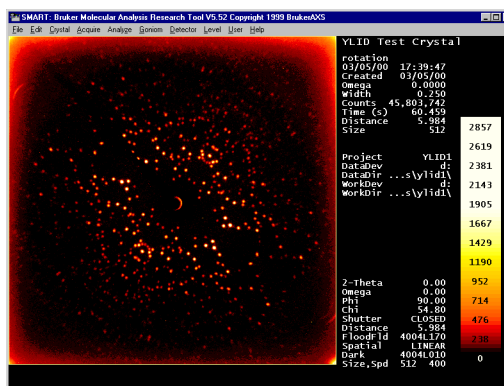

Figure 4-28. Image frame following 60-second rotation
- Press Y (normal response). SMART will then perform a 60-second rotation photo. During this time, phi data on the screen will be highlighted and the shutter data will read: OPEN. Upon completion of the photo, the image frame will display on the screen (Figure 4-28).